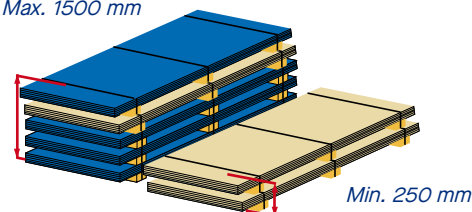

Fig. 1: TRU-SPEC® or Laser Plate steel packs strapped and covered with VCI paper.
- Product stacks are to be a minimum of 250 mm and a maximum of 1500 mm above the deck of the base. (Fig. 1)